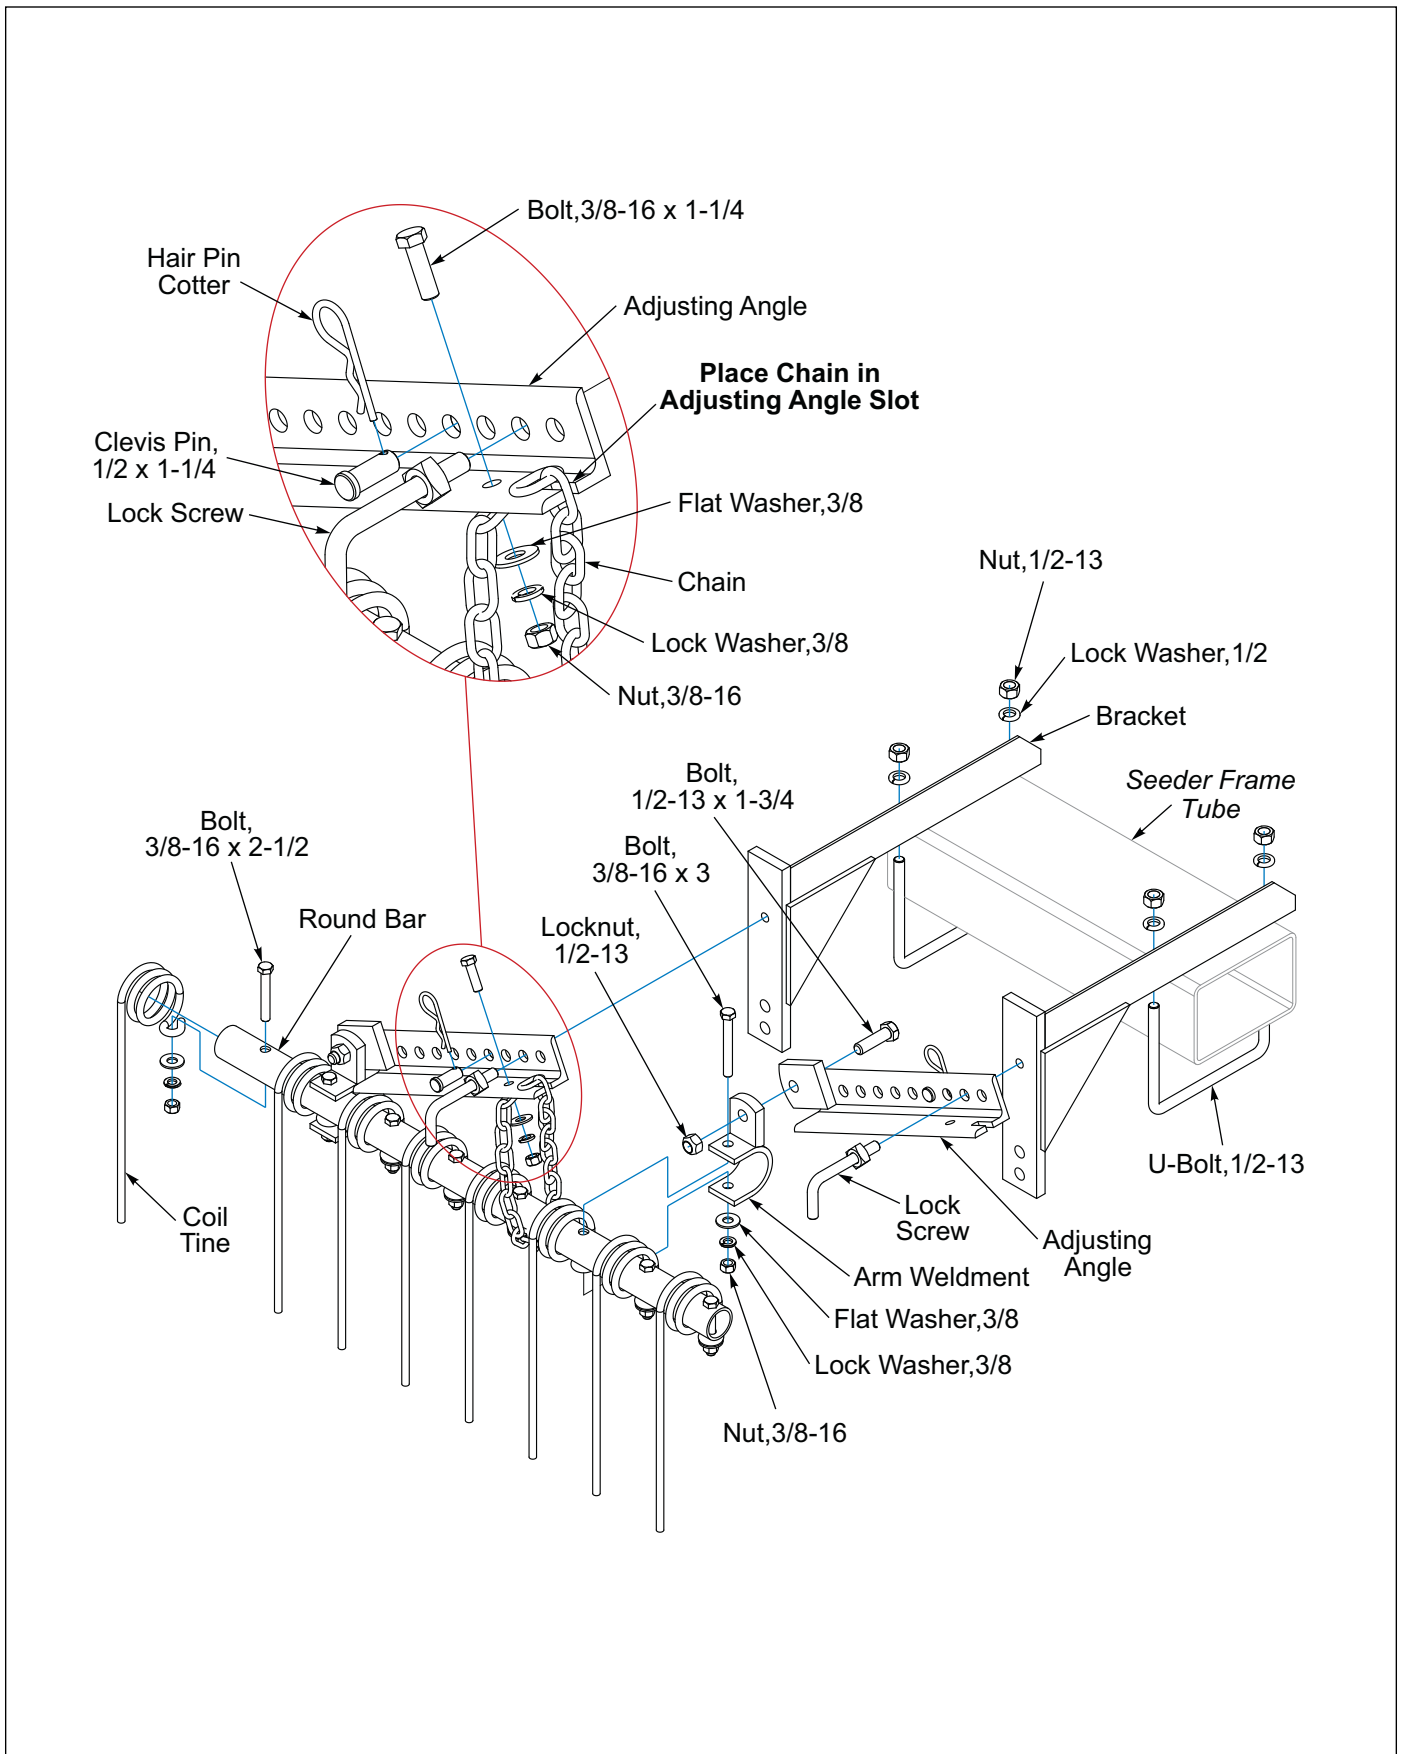

Figure 2-1: Coil Tine Setup
1. Slide the Coil Tines onto the Round Bar so that the straight leg is frontward. **See Figure 2-1.**